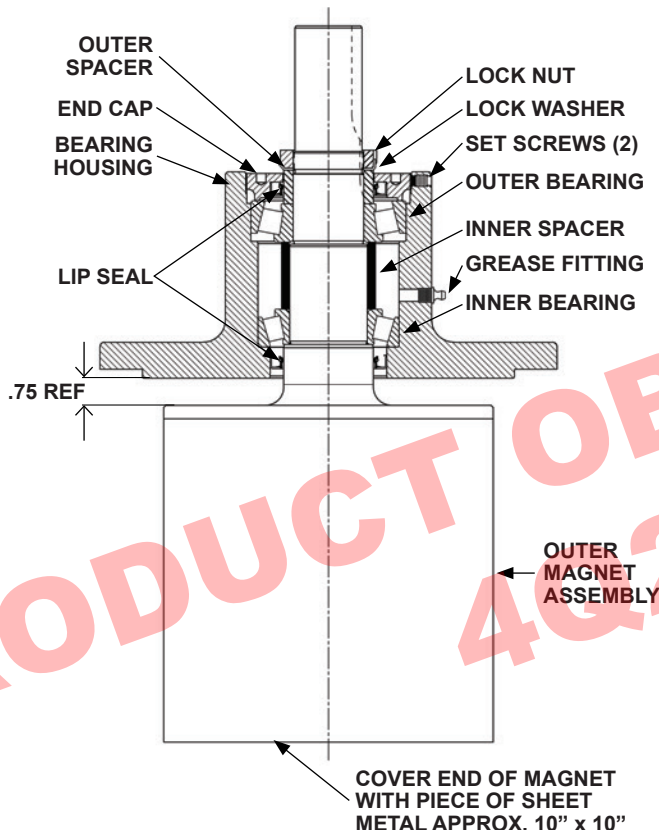

FIGURE 15
The bearing housing features two grease packed tapered roller bearings (TRB) along with a one-piece outer magnet assembly with shaft. The unit may be greased externally using the grease fitting. See Figure 15 if further assembly is required and proceed as follows:
3. Insert the outer magnet shaft through the bearings and the spacers. When the shaft is in the proper position there should be approximately 0.75" between the magnet and the housing. See **Figure 15**.